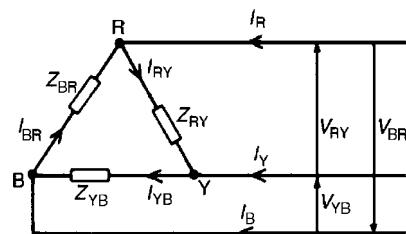
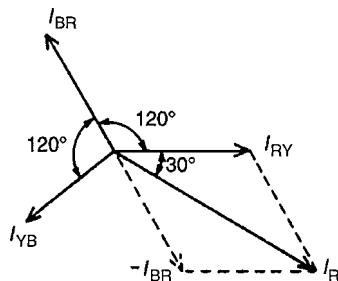

Figure 20.10
Figure 20.11
- A **delta (or mesh) connected load** is shown in Fig. 20.10 where the end of one load is connected to the start of the next load.
- From Fig. 20.10, it can be seen that the line voltages  $V_{RY}$ ,  $V_{YB}$  and  $V_{BR}$  are the respective phase voltages, i.e. for a delta connection:
- Using Kirchhoff's current law in Fig. 20.10,  $I_R = I_{RY} - I_{BR} = I_{RY} + (-I_{BR})$  From the phasor diagram shown in Fig. 20.11, by trigonometry or by measurement,  $I_R = \sqrt{3} I_{RY}$ , i.e. for a delta connection: